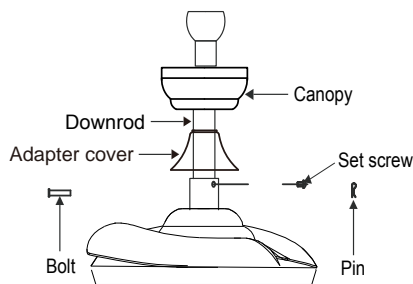

Fig. 6
Step 1. Assemble the canopy and adapter cover as Fig. 6.
Step 4. Align the holes at the bottom of the downrod with the holes in the collar on top of the motor housing (Fig. 6). Carefully insert the bolt through the holes in the collar and downrod. Be careful not to jam the bolt against the wires inside the downrod. Insert the pin to the end of the bolt (Fig. 6).